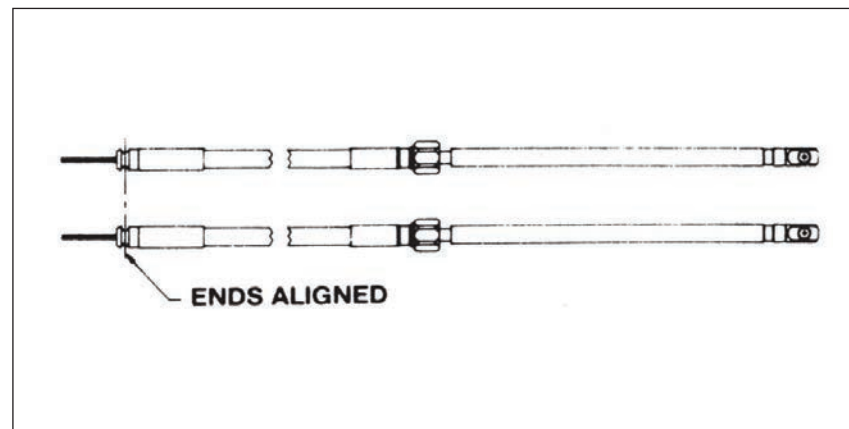

Figure 8.
STEP 2. Push both output rams of the cables to the fully retracted position. Make sure that they stay fully retracted during installation into the helm. Remove the protective sleeves from Steering Cables. Make sure that dirt does not get onto the lubricated cable ends. Hold both cables together at the helm end with the faces of the conduit fittings flush, as shown in Figure 8.